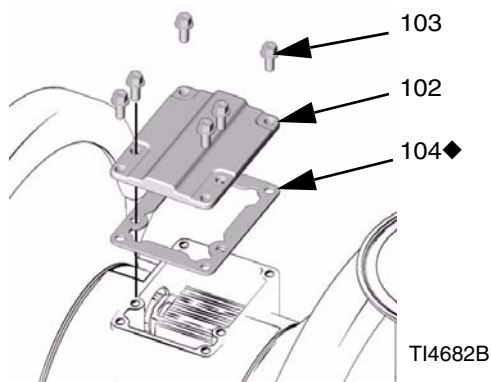

FIG. 6
2. With a Torx (T20) screwdriver or 7 mm (9/32 in.) socket wrench, remove the six screws (103), air valve cover (102), and gasket (104). See FIG. 6.